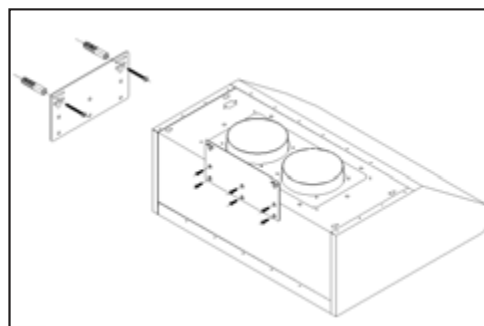

Figure 5
- B-5. Align hood-mounting bracket to the screws on the wall and hook hood into place as shown in Figure 5. Tighten screws to secure hood to the wall.